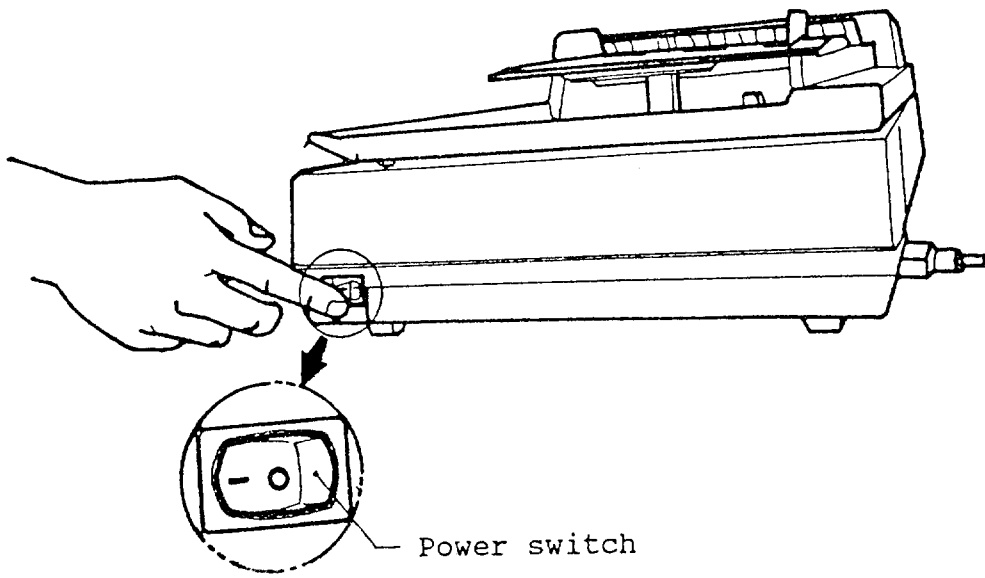

Figure 3.1 Power on
2. Wait until the Power LED and the READY LED lights are on. If either LED fails to light or if the Paper Jam LED lights, refer to Chapter 5 for troubleshooting, as shown in Figure 3.1.